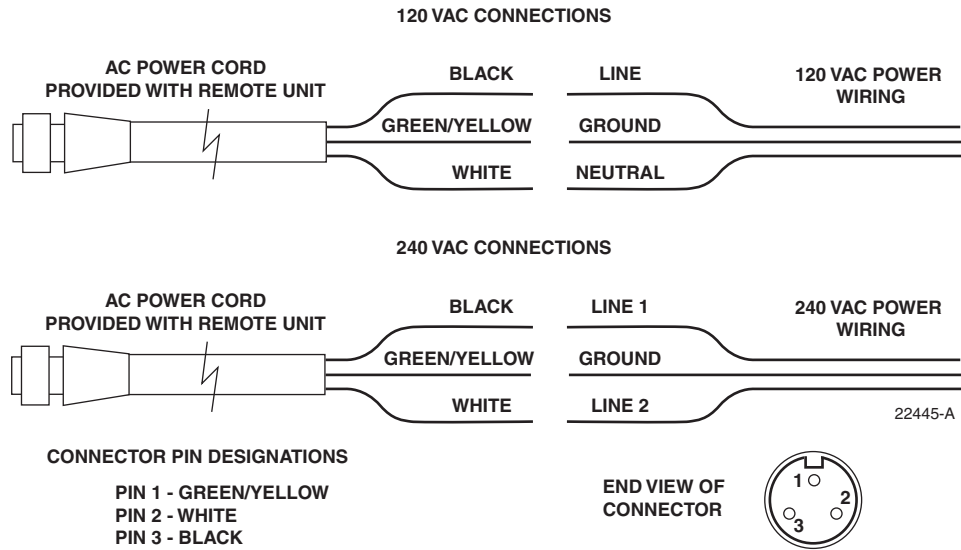

Figure 11. AC Power Cable Connections
5. Connect the AC power cable wires to the AC power supply wires. Refer to Figure 11 to identify the color code and wire designations.